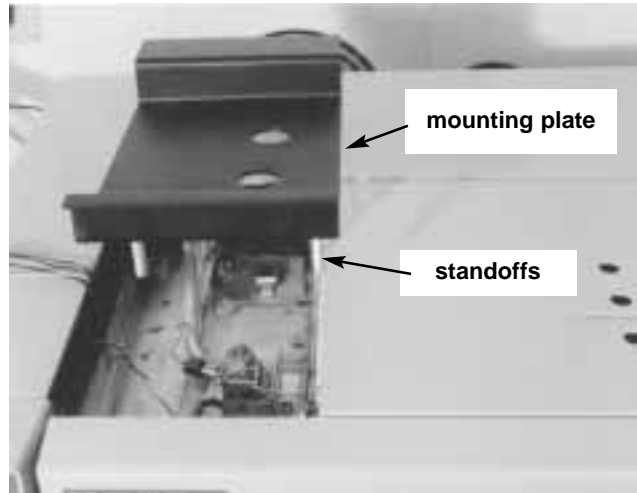

Fig 3.38 Installation of the desorption unit mounting plate.
13. Place the mounting plate (781121 or 781123) where the original HP injection port cover would be. The standoffs should support the mounting plate at the correct height. The standoffs on the mounting plate must sit firmly on the injection port mounting surface. If any gas lines or the gas solenoid valve previously installed are in the way gently move them to provide clearance for the mounting plate standoffs. See **Figures 3.38 and 3.39**.